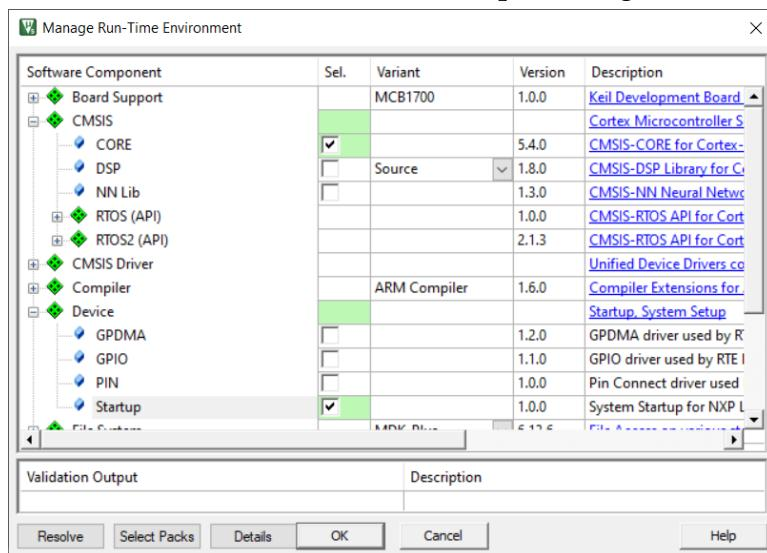

Figure 7.4: Keil IDE: Manage Run-time Environment
- Select CMSIS → CORE and Device → Startup (See Figure 7.4).